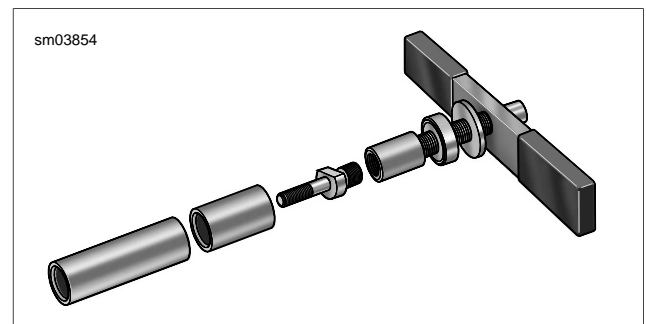

Figure 3-140. Sprocket Shaft Bearing Installer (Part No. HD-97225-55C)
- See Figure 3-140. Obtain the SPROCKET SHAFT BEARING TOOL (Part No. HD-97225-55C). Assemble tool as described below.